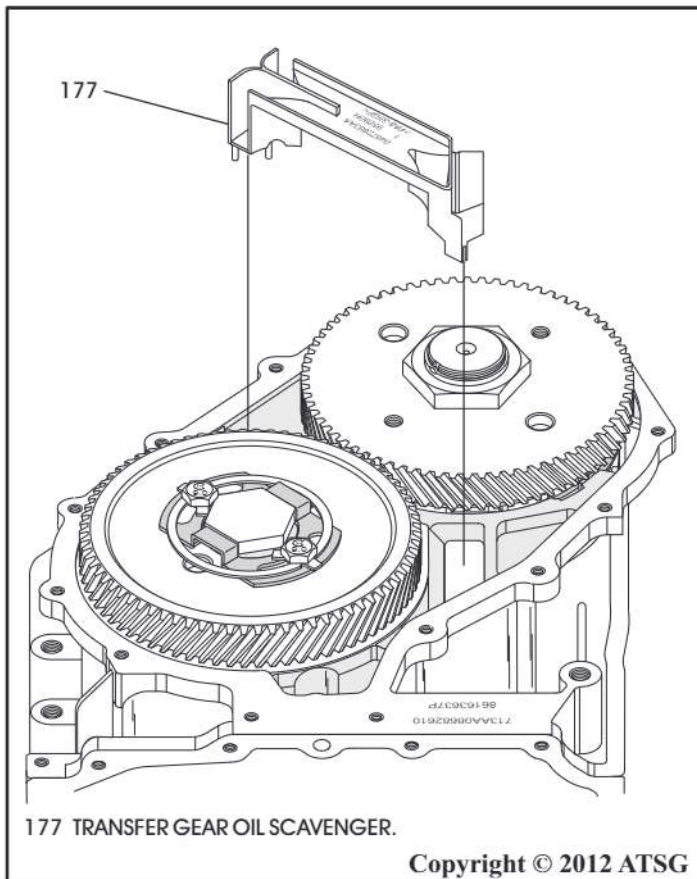

Figure 240
20. Install the transfer gear oil scavenger, as shown in Figure 240, by snapping into place.